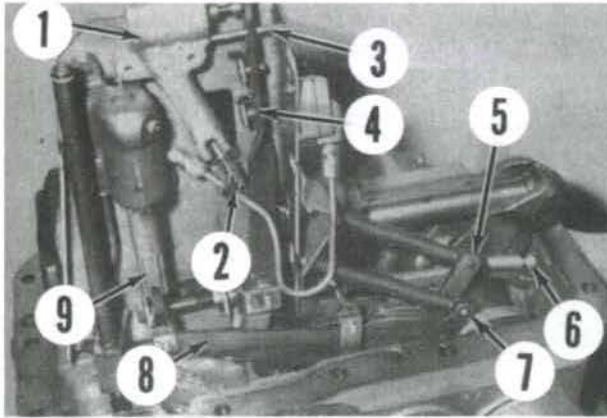

Fig. 198—View of lift cover internal control linkage. Pressure control model is shown.
212. DRAFT CONTROL ROD. To adjust draft control rod (6—Fig. 198), first move draft control lever to full "UP"
On pressure control models, disconnect pressure control lever (8—Fig. 198) from pressure control valve and rear pivot pin, and remove control lever. Remove pressure control adjusting tube (9) with rod, clevis and spring from pressure control valve.
215. PRESSURE CONTROL VALVE. On models equipped with pressure control, reinstall spring and adjusting tube (9—Fig. 198) into pressure control valve. Attach pressure control lever (8) to clevis and pivot pin. Move draft control lever fully "UP" and move inner quadrant